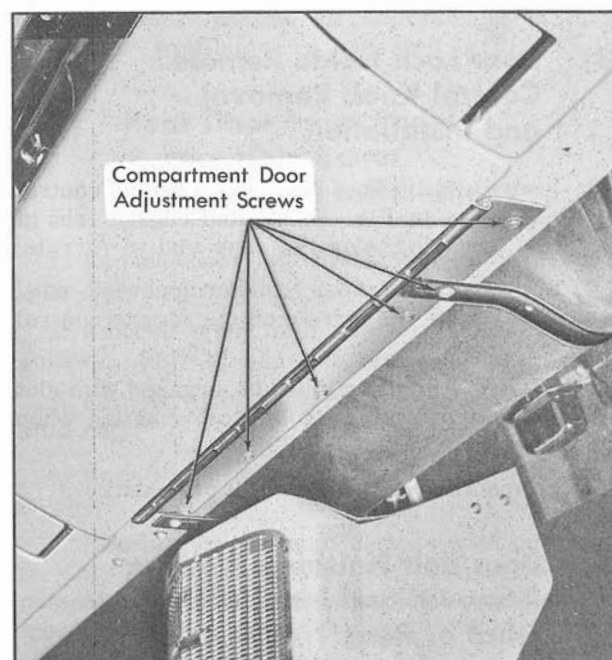

Fig. 17-10 Compartment Door Adjusting Screws
1. To adjust the door up or down or from side to side, loosen the door hinge to instrument panel attaching screws, Fig. 17-10, and adjust door as required; then tighten screws.